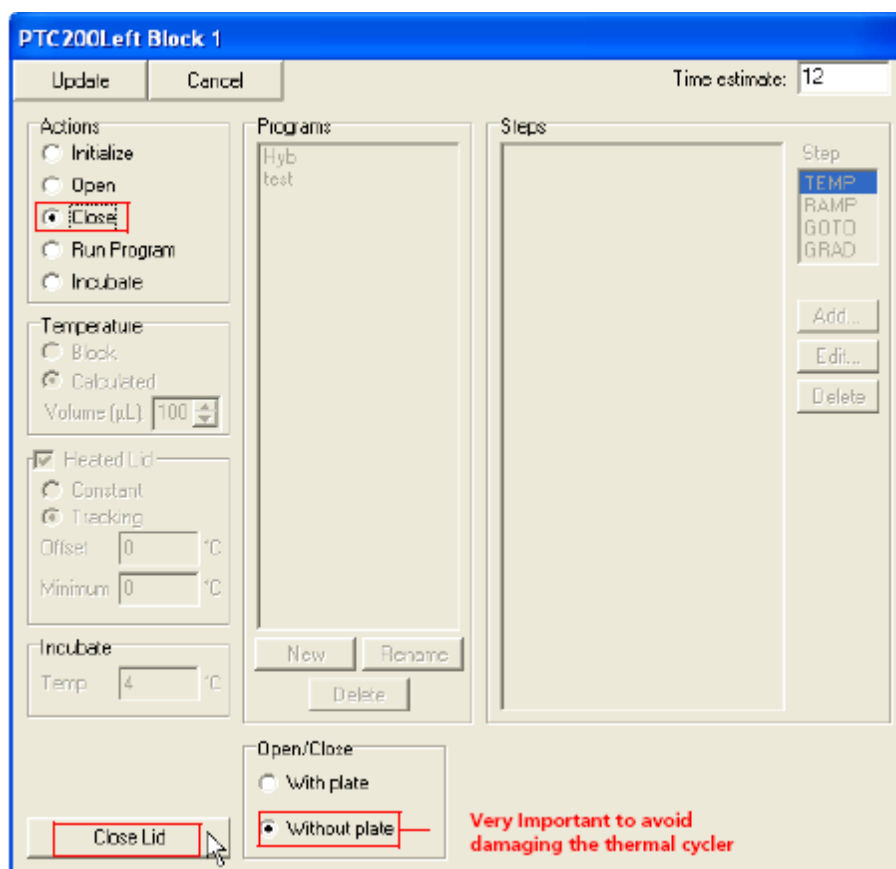

Figure 9 Closing the DNA Engine™ PTC-200 Thermal Cycler lid.
4. Select the following (Figure 9):